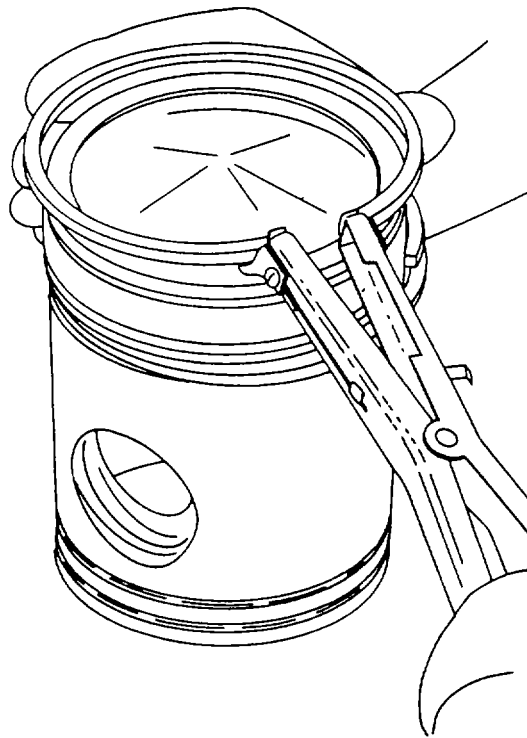

**Figure 4-22. Pistons and Connecting Rods, Removal/Installation.**
a. Removal. (Refer to figure 4-22).
- (1) Use a ridge reamer and remove the carbon deposits from the upper inner surface of the cylinder liner.
- (2) Remove two nuts (1) and bearing cap (2).
- (3) Push piston and connecting rod (3) out through top of cylinder block.
- (4) Install bearing cap (2) on connecting rod and secure with two nuts (1).
- (5) Remove remaining three connecting rods and pistons in accordance with step (1) thru (4).
- (1) Refer to figure 4-22 and remove two nuts (1) and bearing cap (2) from connecting rod (3).
- (2) Remove upper and lower bearing shells (4).
- (4) Use a punch or chisel and punch a hole through the center of one of the piston pin retainers (6, figure 4-22) and pry the retainer from the piston. Remove the opposite retainer in the same manner.
- (5) Loosen two bolts (7). Remove piston and connecting rod from vise and place on a work bench.
- (6) Remove two bolts (7), two bushings (8), and connecting rod (3).
- (7) Remove piston pin (9).
- (1) Refer to figure 4-22 and install bearing (13) in piston skirt (11). With new parts, there is .0005 to .0105 inch clearance between the edge of the bushing and the groove in the piston crown.
- (5) Install bushings (8, figure 4-22) on bolts (7). Apply a small amount of International Compound No. 2 (item 13, Appendix C) or equivalent, to the bolt threads and bolt head contact surface.
- (6) Install and tighten the bolts finger tight. Clamp the connecting rod in a vise and tighten the bolts to 55-60 lb-ft (75-81 Nm) torque. Do not exceed the torque.